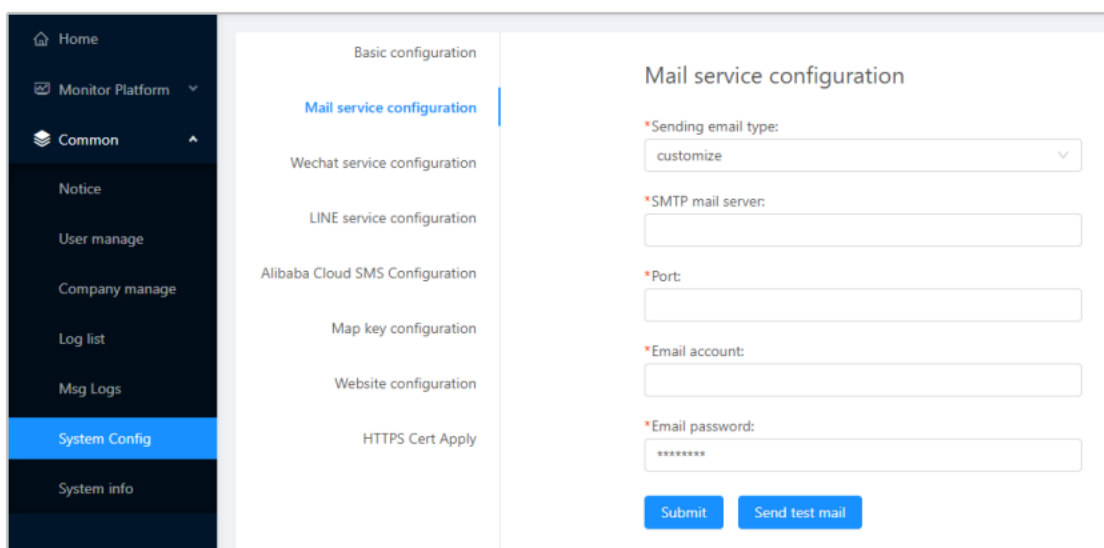

Figure 3-59
- (2) Mail Service Configuration: Navigate to the "System Config" page and click "Mail service configuration" to configure mail settings. The configuration includes "Sending email type", "SMTP mail server URL", "Port", "Email account", and "Email password", as shown in Figure 3-59.